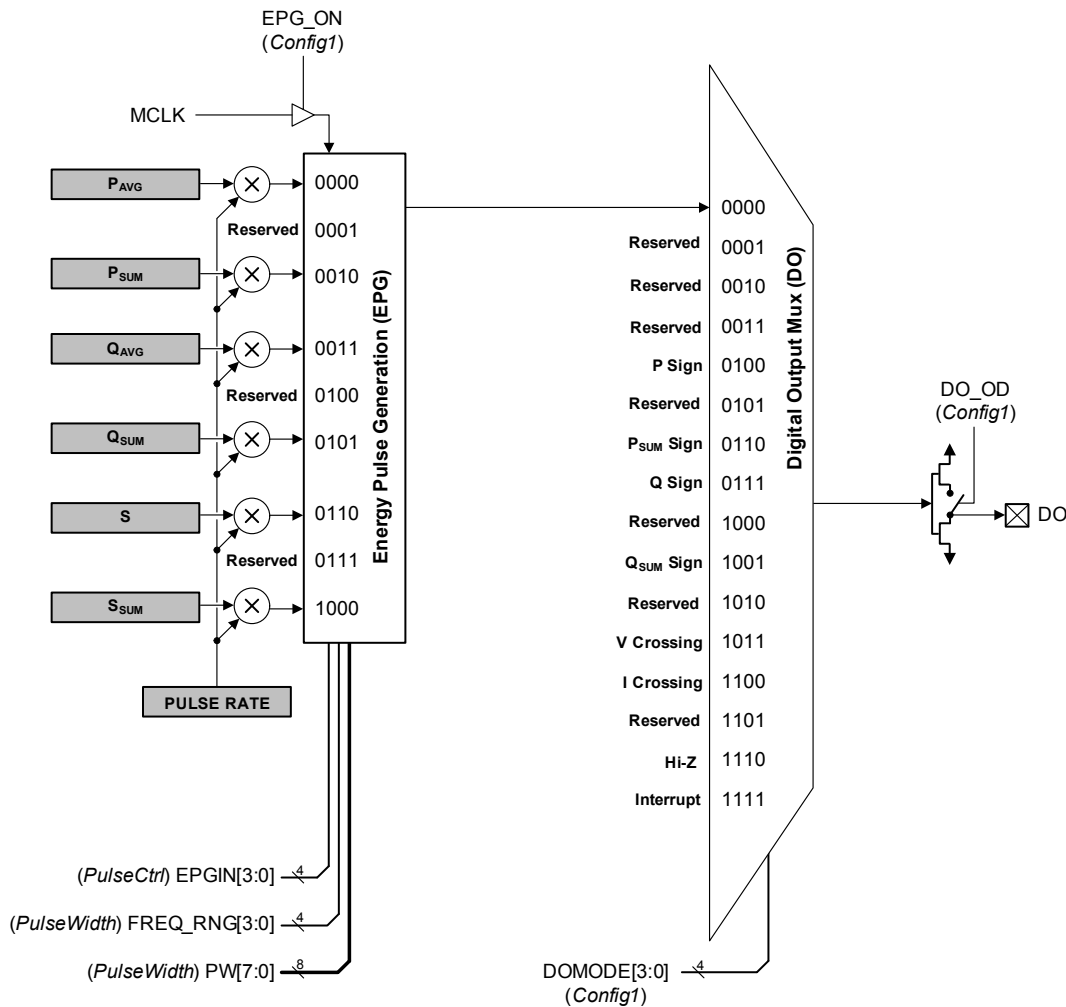

Figure 10. Energy Pulse Generation and Digital Output Control
The CS5490 provides an independent energy pulse generation (EPG) block in order to output active, reactive, and apparent energy pulses on the digital output pin (DO). The energy pulse frequency is proportional to the magnitude of the power. The energy pulse output is commonly used as the test output of a power meter. The host microcontroller can also use the energy pulses to easily accumulate the energy. Refer to Figure 10.